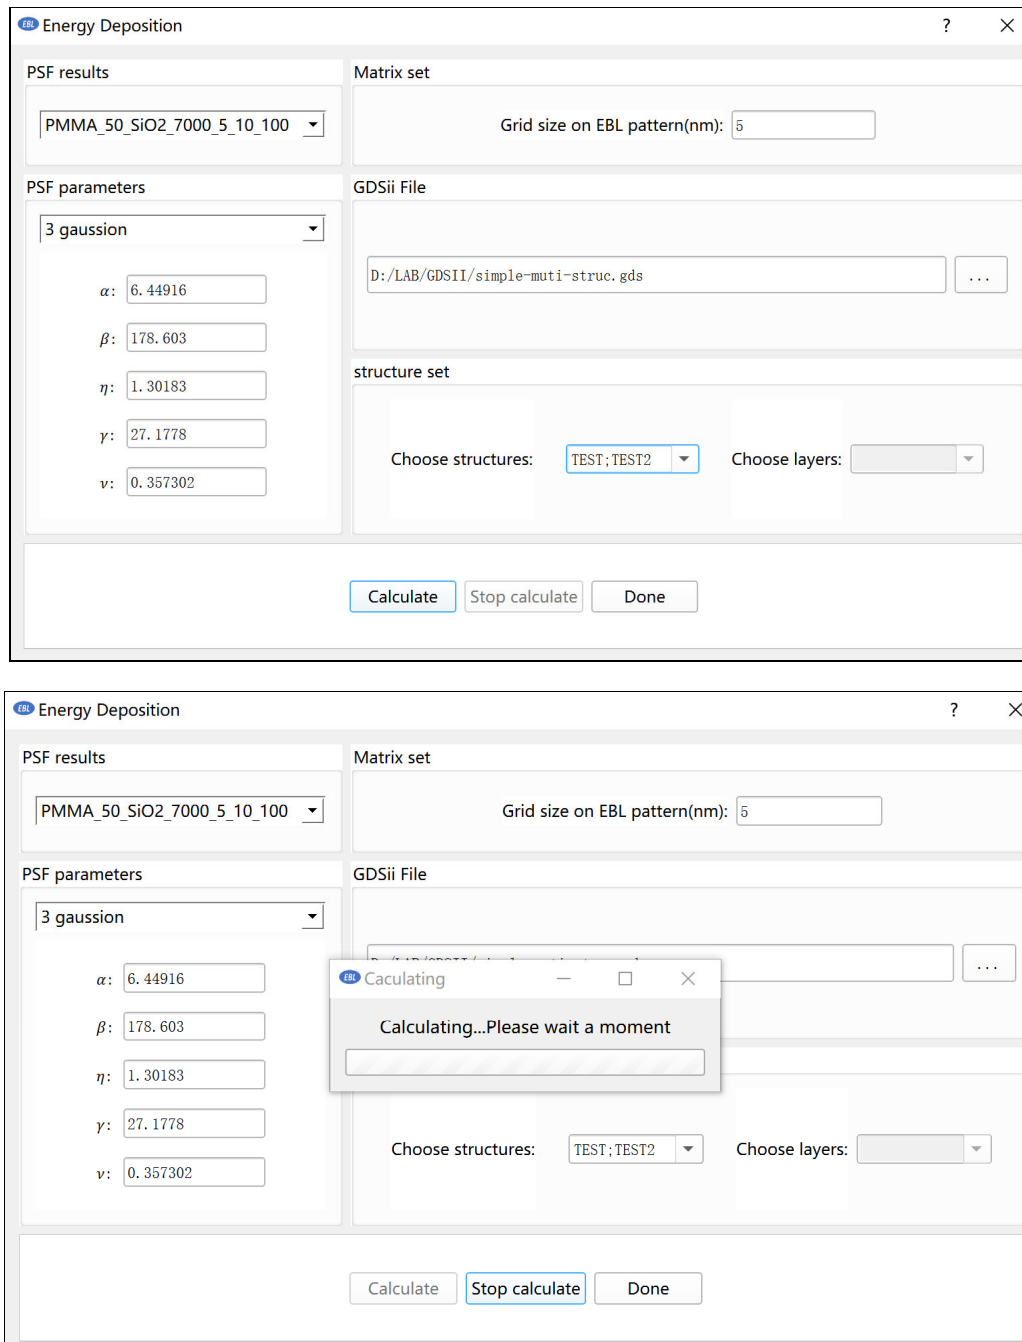

Figure 2.8.1 Energy deposition calculation
- 1) You can click "Energy Deposition" on the toolbar at the top of the main interface to calculate the energy deposition (Figure 2.8.1).
- 3) In the "fitting function", you need to select a fitting formula. the three Gauss function for energy deposition calculation is selected in the figure 2.8.1.
- 4) "Matrix set" is set to calculate the minimum size (nm) of the exposure unit, and 5nm is selected in the figure 2.8.1. (Note: If the layout is large, the minimum size of the exposure unit should not be too small. If the size is too small and the computer memory is insufficient, a prompt will be given.)
- 6) You can click "Calculation" (Figure 2.8.1) to perform energy deposition calculation. If the input parameters are incomplete, the calculation cannot be started. There will